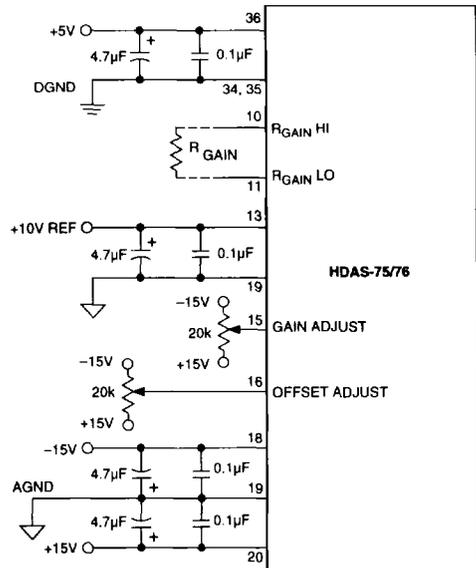

Figure 2. Typical Connection Diagram
1. Connect the converter per Figure 2 and Tables 2 and 3 for the appropriate input range. Apply a pulse of 1μs (typical) to the START CONVERT input (pin 40) at a rate of 75kHz. This rate is chosen to reduce flicker if LEDs are used on the outputs for calibration purposes.